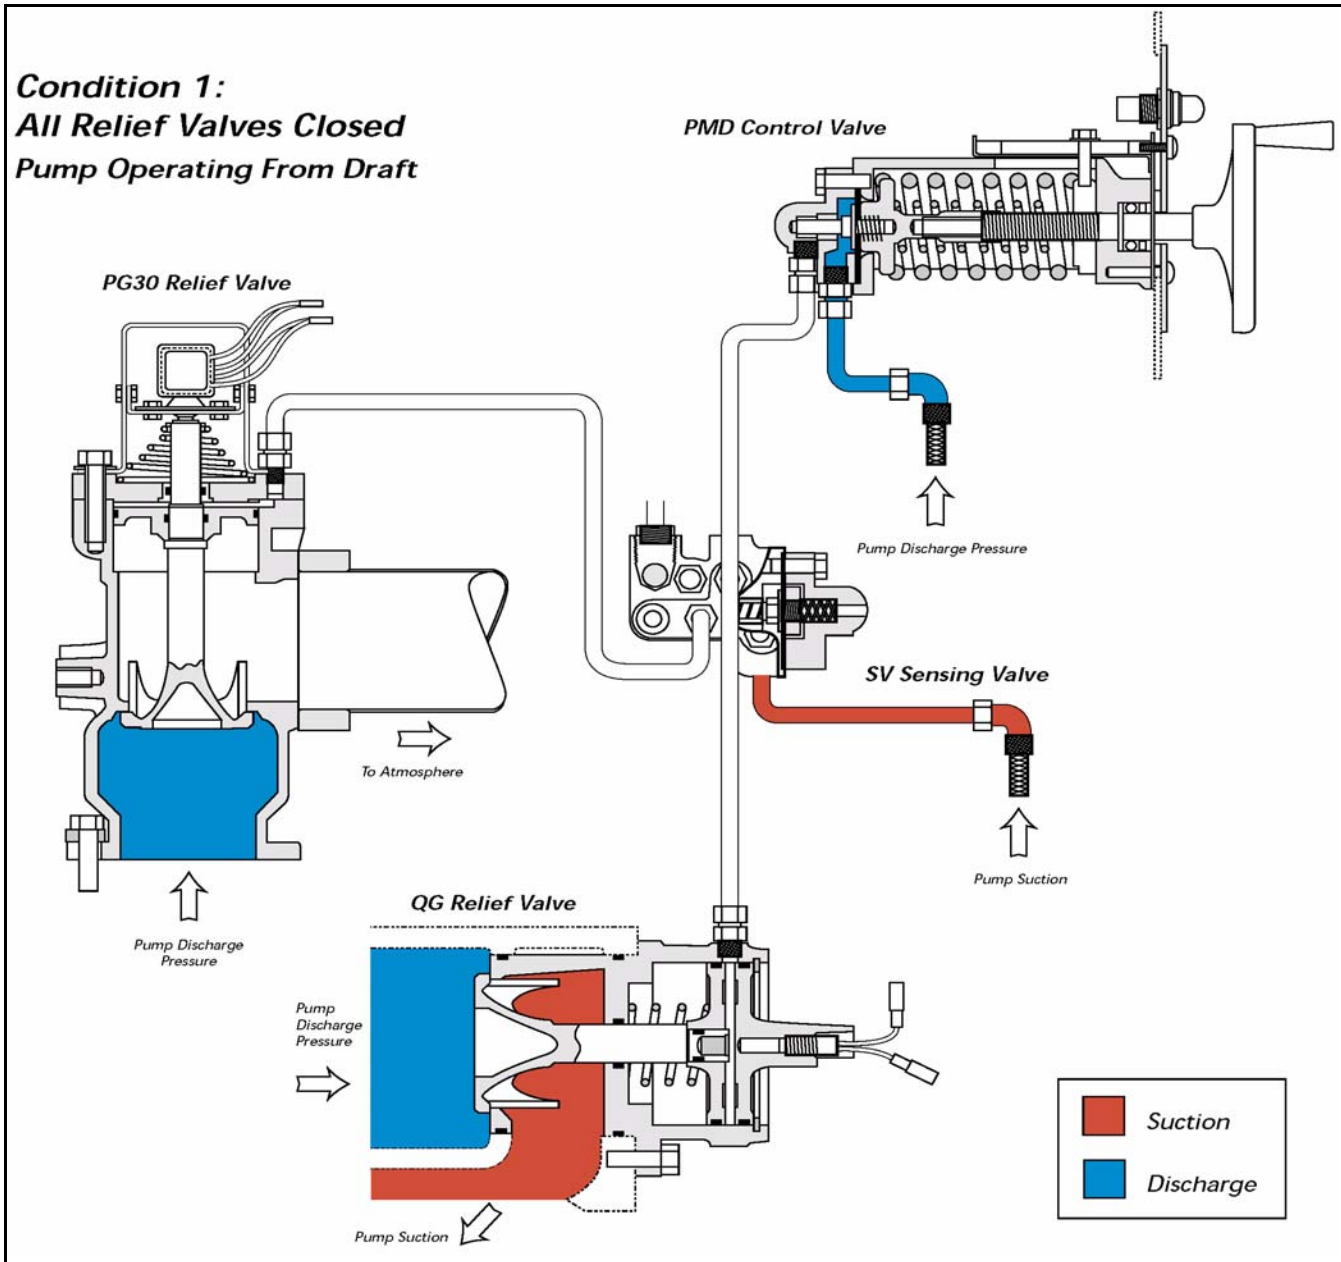

Figure 3-15: Typical TPM Relief Valve System, Condition 1
- Figure 3-15: “Typical TPM Relief Valve System, Condition 1” on page 50